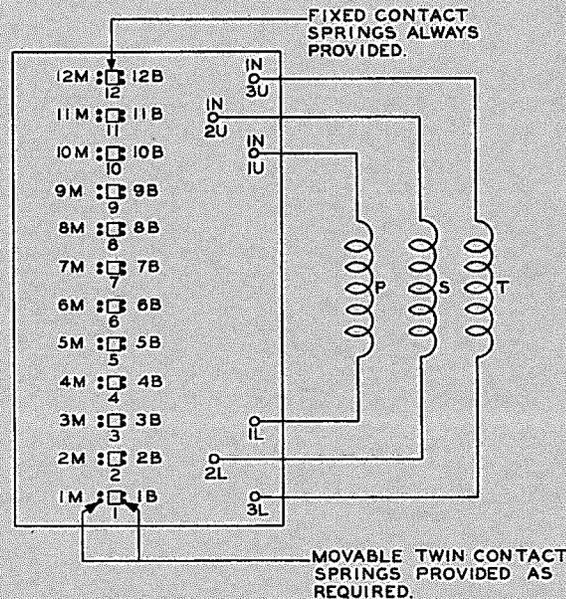

Fig. 70 - Winding and Contact Spring Arrangement as Viewed From the Front (Contact Side) 12-position AF-, AG-, and AJ-type Relays
- (d) 2.70 to 2.72 and Figs. 70, 71, 72, and 73 - added
(a) 12-position Relays: As viewed from the front of the relay, there are 12 contact positions arranged vertically. Each position has a single fixed spring and may or may not have movable make and/or break springs associated with it. The make springs are located to the left of the fixed springs and the break springs to the right. The fixed springs are numbered consecutively from 1 to 12, beginning at the bottom. The movable twin contact springs are numbered the same as their associated fixed springs with the appropriate suffix M (make) or B (break). A full complement of springs with their designations are shown in Fig. 70.
2.72 Winding Terminals: Winding terminals are provided as required and extend from the front of the relay, where test connections may be made, to the rear where the external wiring is connected. As viewed from the front, the winding terminals are arranged in two groups to the right of the core as shown in Fig. 70. Referring to the figure, the terminals in the upper group, designated 1U, 2U, and 3U, are connected to the inner ends of the primary, secondary, and tertiary windings, respectively. The terminals in the lower group, designated 1L, 2L, and 3L, are connected to the outer ends of the same windings. As viewed from the rear, the winding terminals are located to the left of the contact spring terminals and have the same designations as when viewed from the front.